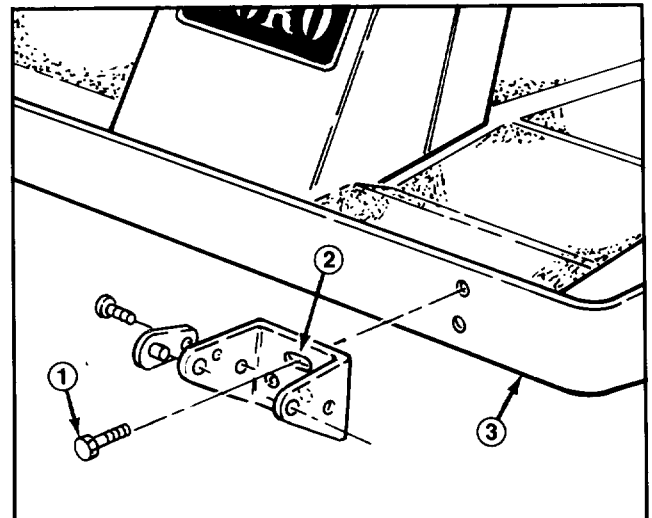

Figure 8
3. Install clevis pins through desired height-of-cut bracket holes and frame to secure cutting unit to frame (Fig. 8). Secure all four pins with hairpins.
- A. Groundsmaster 220-D and 224 — Insert (2) 3/8 x 1" flange screws through the slotted bracket holes. Thread the screws into captivated frame nuts and torque to 45-50 ft-lb (Fig. 8).